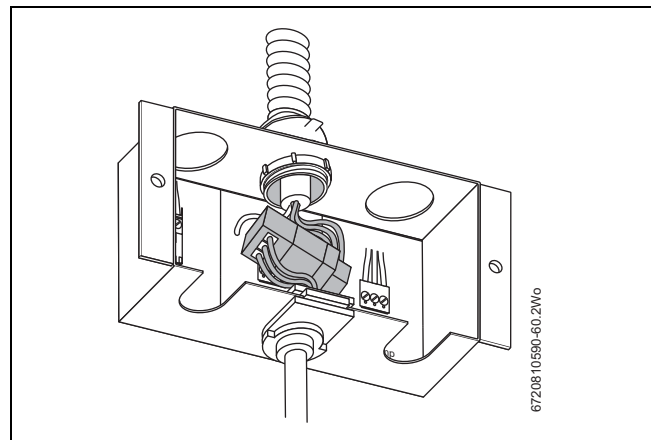

Fig. 47 Cable connected (external DHW tank loading pump or 3-way valve)
- ▶ Insert cable into the junction box as shown in Fig. 47.